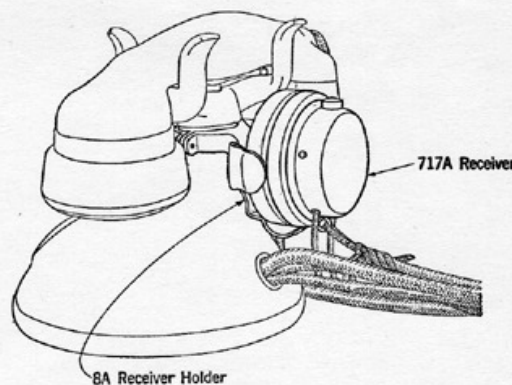

Fig. 3
4.01 The 8A receiver holder should be installed on "D" type hand set mountings as shown in Fig. 3.